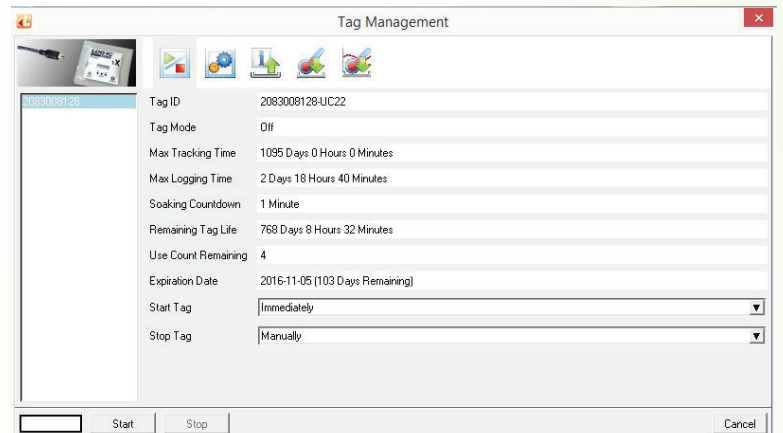

Figure 5
3. Verify that the recorder is OFF. The recorder status is displayed when you plug the LOG•IC into the computer (Figure 1). If the recorder is not OFF, click the “Select Tag Mode” icon (Action Icon 1) and click the STOP button (Figure 5).
6. Return to the “Select Tag Mode” icon and set start and stop tag preferences (Figure 5).